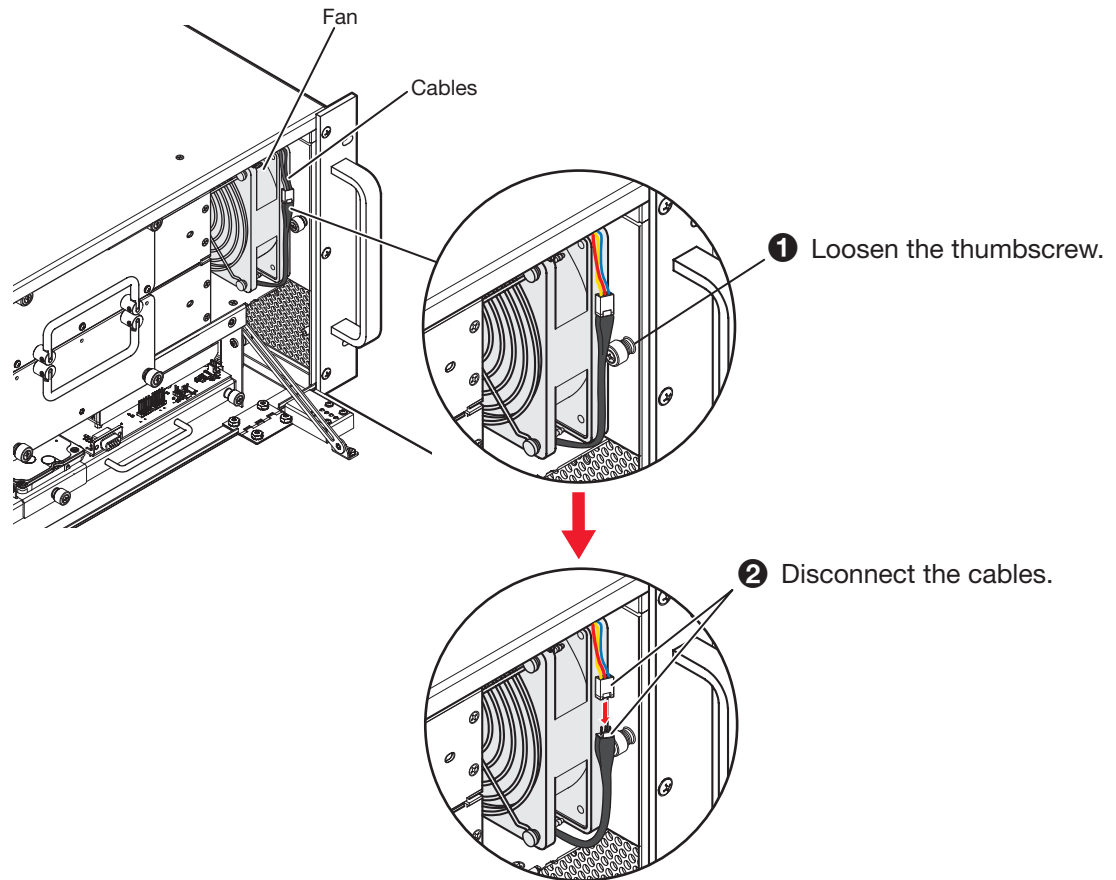

Figure 105. Detaching the Front Fan
2. Use a screwdriver to loosen the thumbscrew that holds the fan to the chassis (see figure 105, **1**). The thumbscrews cannot be removed completely.